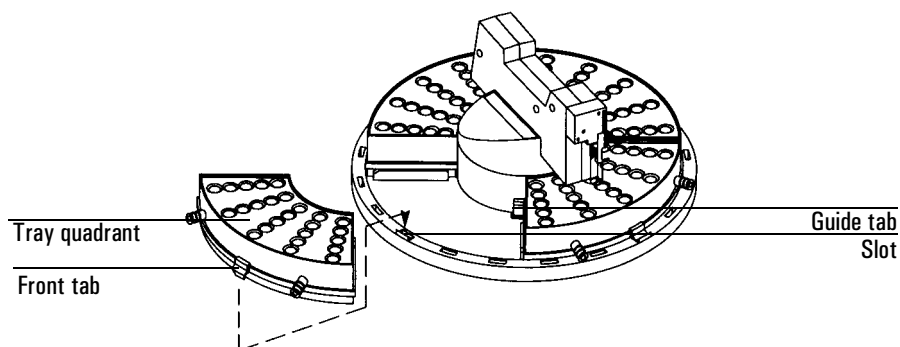

Figure 4 Install the tray quadrants
4. Install the tray quadrants. Slide the leading edge of each quadrant under the guides on the tray, then snap the front tab into the slot on the tray. See Figure 4.